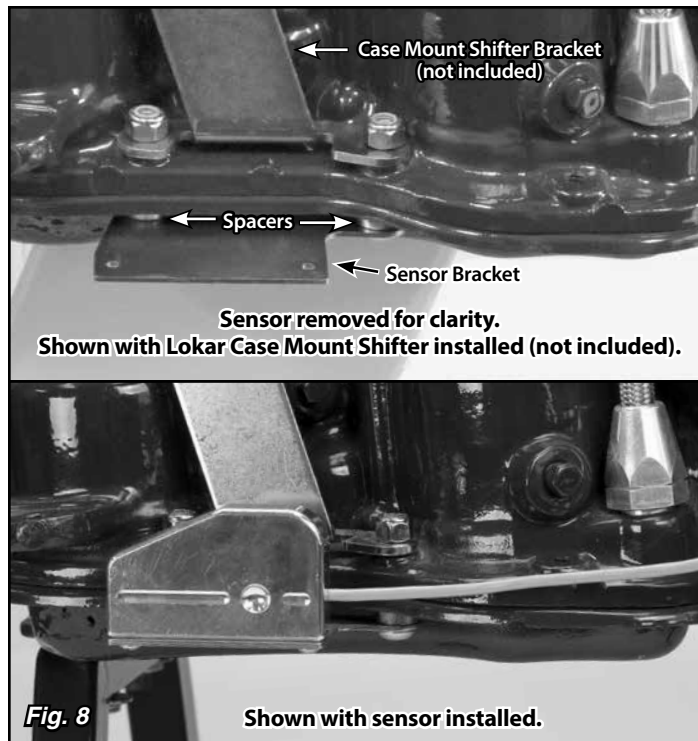

Fig. 8
• **Directly onto the passenger side of the transmission:** Remove the second and third pan bolts to the rear of the dipstick tube. Use the provided 5/16" x 1-1/4" bolts, lock washers, flat washers, and spacers to mount the sensor bracket in that location. If you have a Lokar Case Mount Shifter on the transmission, use the longer bolts and nylock nuts that came with the Shifter instead. If you have an aluminum transmission pan, the spacers may not be necessary. Tighten the transmission pan bolts that are used to mount the sensor bracket. **Fig. 8**